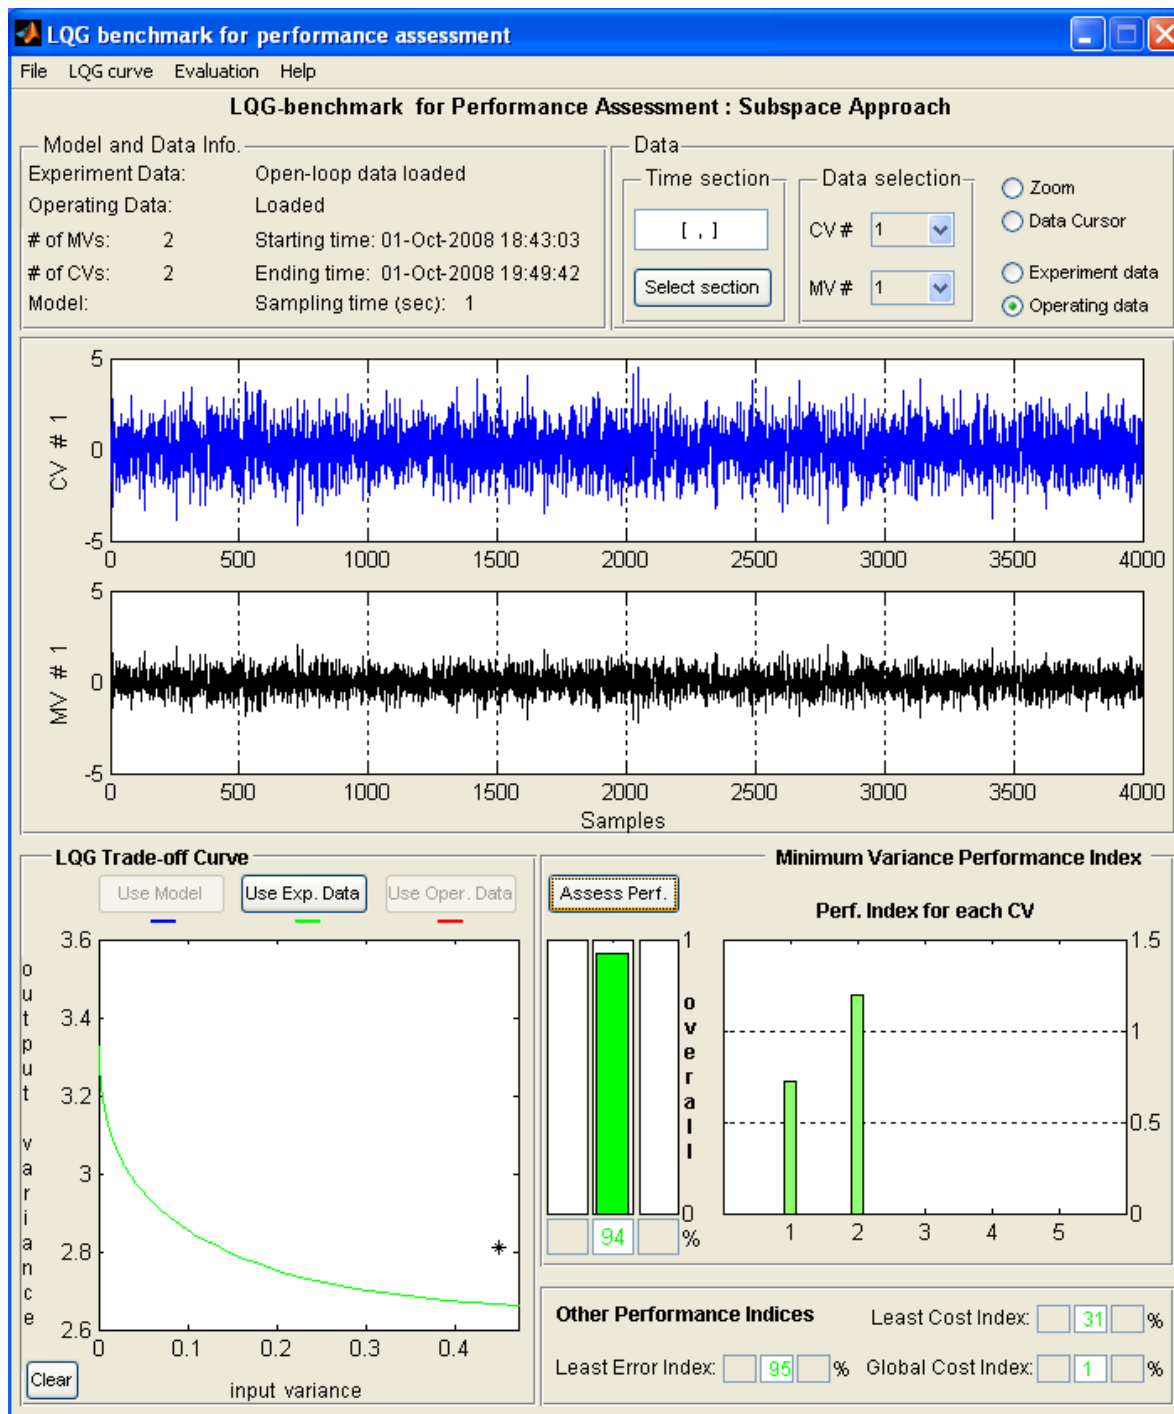

Figure 7: Performance indices obtained for a MIMO process
- 13) Once the LQG curves have been obtained, you can load a set of closed-loop routine operating data from the **Evaluation** menu to assess its performance. Then, press the **Assess Perf** button to have all the performance indices calculated. The overall performance index and an index for each controlled variable will be shown in the **Minimum Variance Performance Index** panel. Three more indices are available in the **Other Performance Indices** panel, see Figure 7. For the definition of the different indices, please see the Theory section on p. 9.